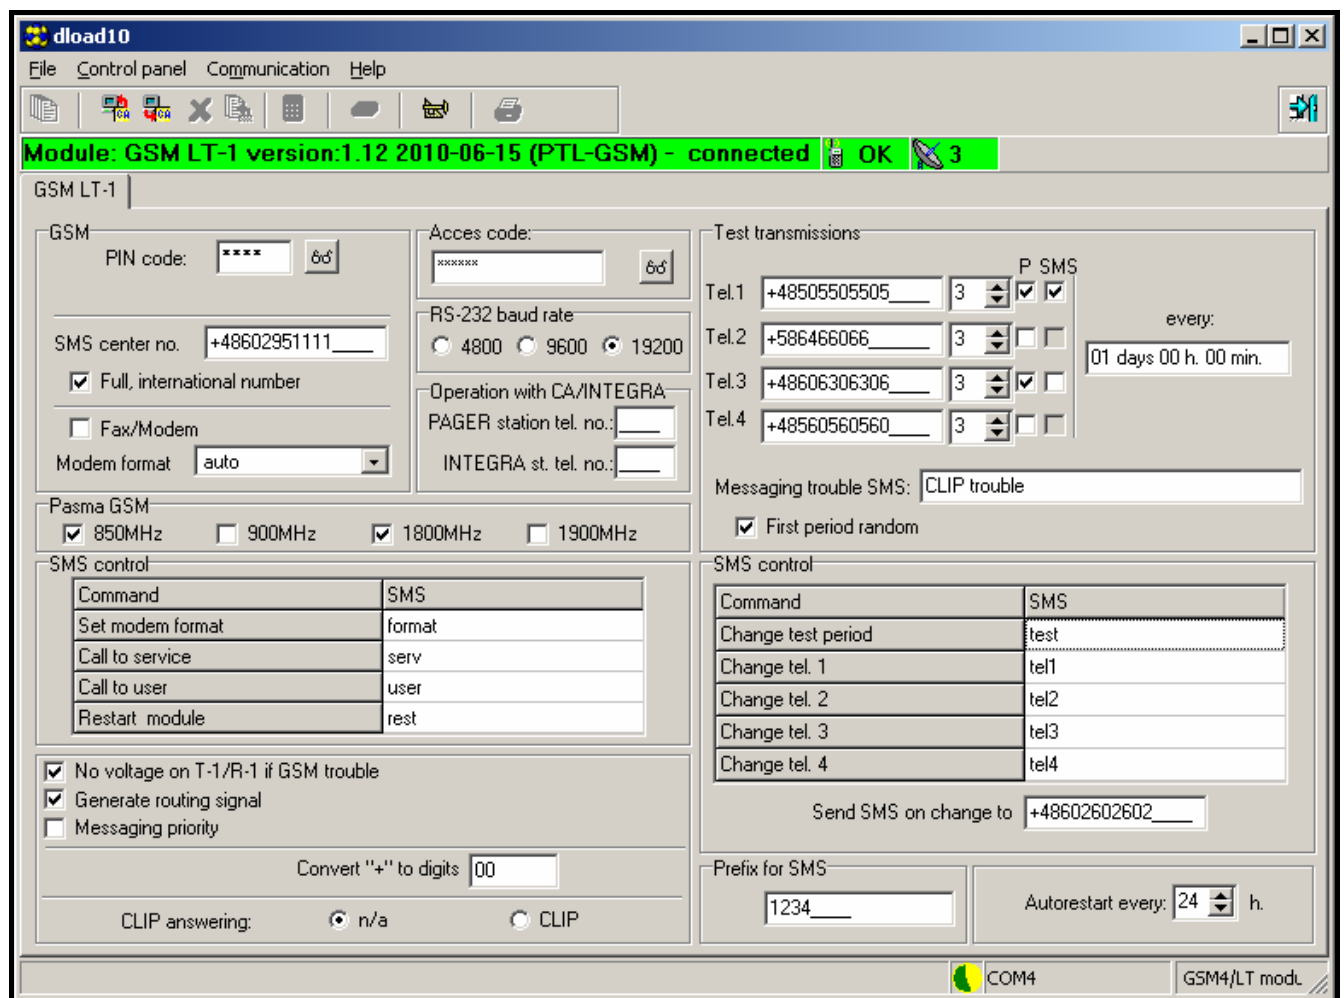

Figure 9.
4. Program the module. Figure 9 shows the window for programming the module settings. The parameter values in the drawing are just an example. The data related to test transmission and SMS control, as well as the PIN code, are not programmed by default. Particular parameters are described in Section „Module Programming”. The line in the upper part of the window shows the current status of the module as well as the antenna signal level.